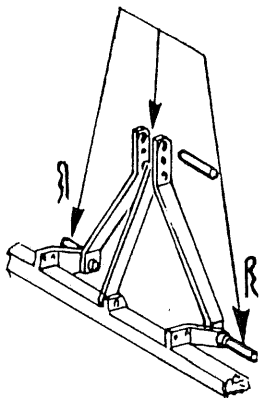

FIG. 6
10.3 - Bring the tractor up to the machine, **taking care not to get between the two at this stage**, and proceed with coupling only when the tractor is stationary. Fix the three coupling arms with the relative pins and insert the appropriate safety split pins (fig. 6).